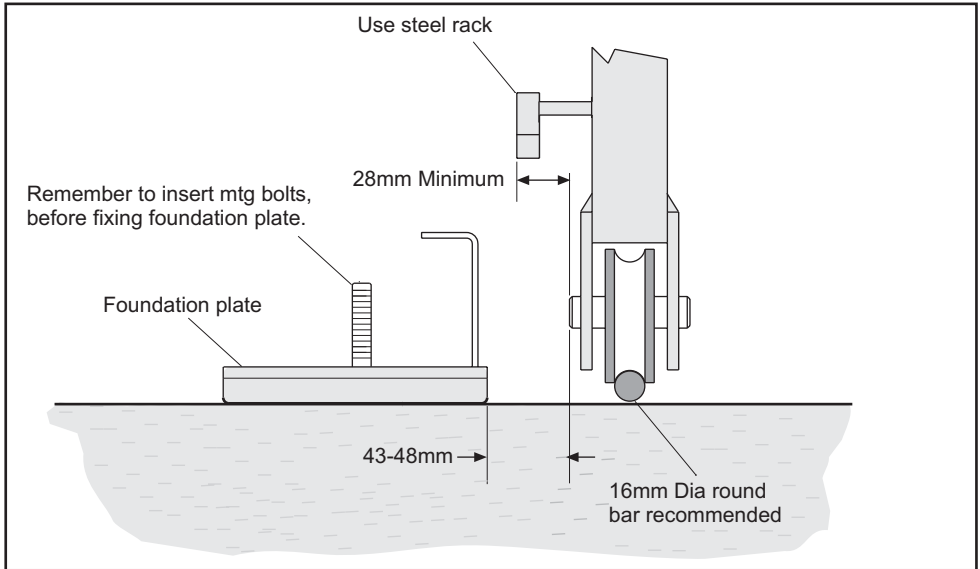

Figure 10 Rack Axle Clearance
- The LH concrete anchor (7) may need to be broken off in order to clear incoming conduits.
- **Make sure the M10 bolts (8) which secure the gearbox are in place.**
- Refer to the Fig. 10 to ensure correct positioning. Mark through the foundation plate holes to indicate where to drill holes for the M10 rawlbolts (9).
- Use extra washers (10) as required to ensure the foundation plate is level.